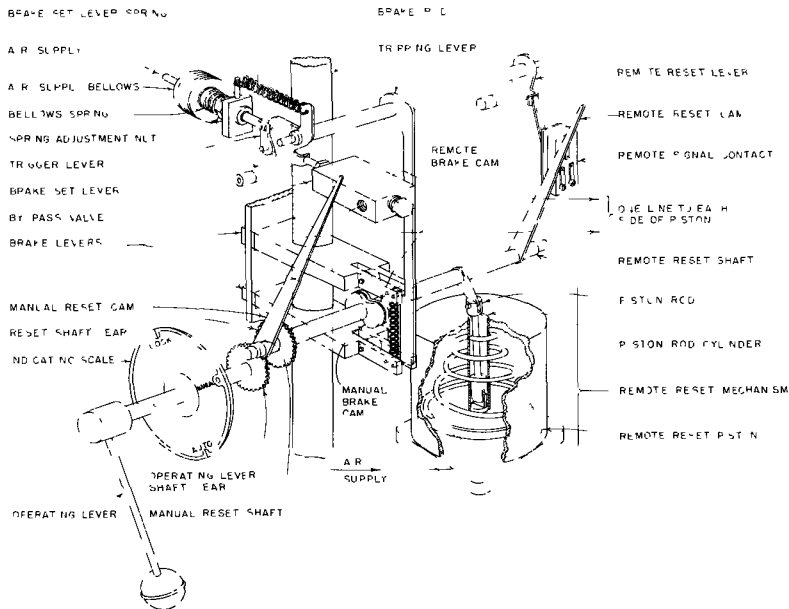

FIGURE 18 - Schematic of Air Failure Brake
Figure 18 shows the Air Failure Brake in automatic position (operating lever at AUTO) and full air supply pressure available to Control Drive.
1. Refer to Figure 18. Set Brake operating lever in MANUAL position.